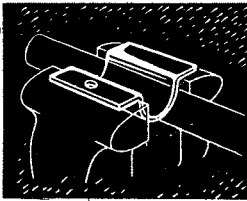

FIG. 1
1. Place impeller shaft in vise, using copper shaft holder (Figure 1) to protect the shaft. Recheck the shaft for freedom from nicks and scratches. Do not use a crooked shaft. Remove with a file all burrs and scratches. If shaft is satisfactory, check for scribe mark that locates the bottom impeller.